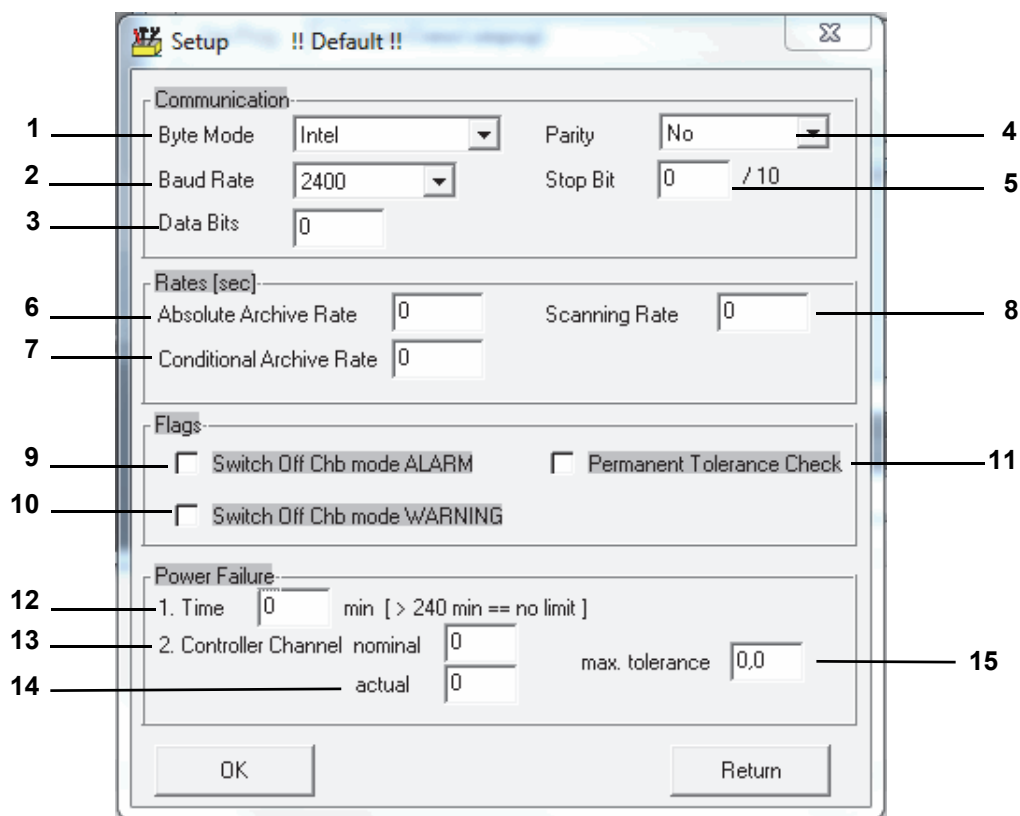

Fig. 3-10: Settings
→ Fig. 3-10: »Settings« (page 37)
- 6 Time between two archiving cycles → Fig. 3-10: »Settings« (page 37)
If the warning limits are exceeded, absolute archiving changes to conditional archiving and continues in this mode. → Fig. 3-10: »Settings« (page 37)